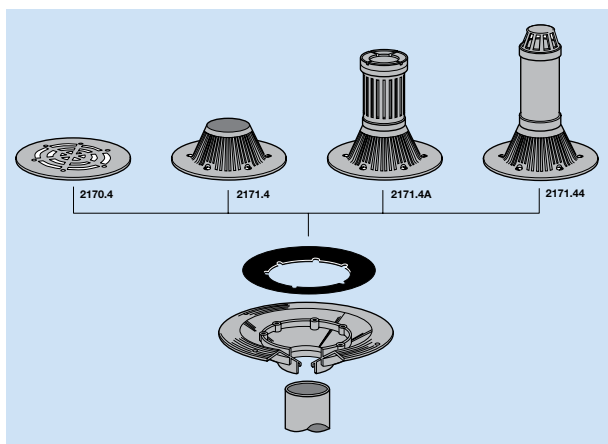

Fig.32
- Offer up selected grid (see Fig.32 for alternative grids) check correct angle of dressing and engagement of screws
- Secure grid and washer with screws supplied (see Fig.32 for alternative grids)